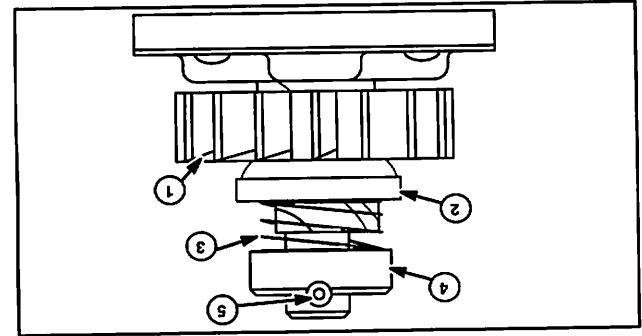
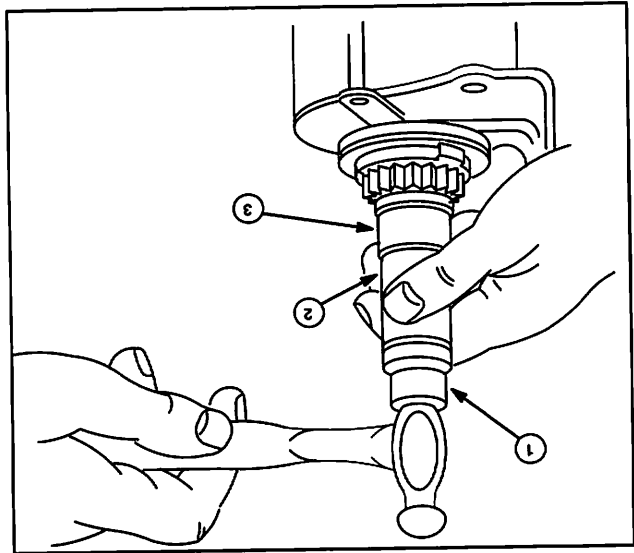

Fig. 66
Fig. 67
1. Assemble pinion gear with beveled edge on the gear (1) up as shown in Fig. 66.
2. Assemble cup (2) and spring (3) on gear if original assembly was so equipped, and fit retainer (4) on shaft.
3. Drive new roll pin (5) through retainer slot and armature shaft hole. The roll pin should be centered in shaft within $1/32"$ (.8 mm). Assemble with new roll pin only.
5. To install plastic cap, fit a socket (2) over the plastic cap (3) and tap gently (1) as shown in Fig. 67.